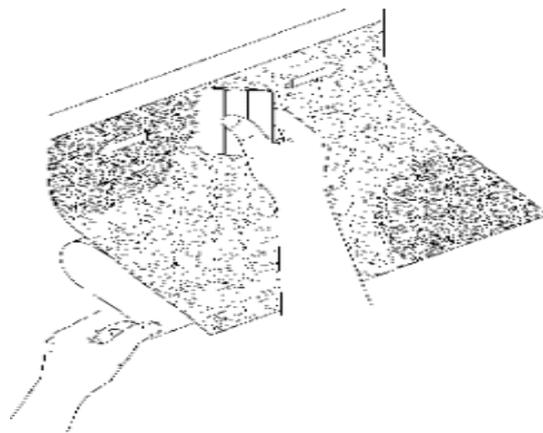

Figure 7. Squeegee a Top Hinged Graphic
3. Begin squeegeeing at the top center. Squeegee the graphic beginning at the center of the tape hinge and working outward from the hinge to the closest edge. Use firm pressure on the plastic applicator and overlapping strokes. See Figure 7.